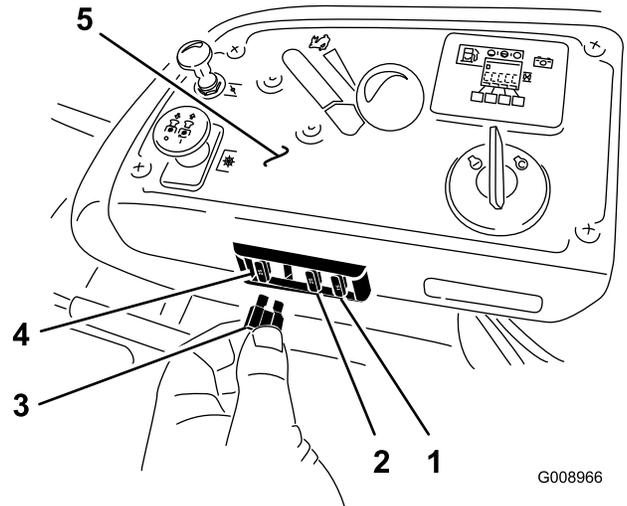

Figure 73
The fuses are located on the console to the right of the seat (Figure 73).
2. Install a new fuse (Figure 73).